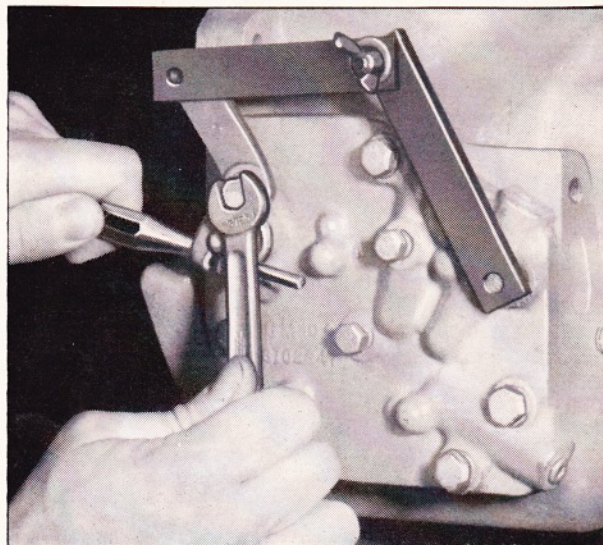

Fig. 8
4. With the throttle valve outer lever positioning gauge J-5906 set at 6", rotate the outer lever counterclockwise to permit the gauge to be installed in top bolt hole and lever. Install gauge as shown in Figure 8.
5. With the clamp and outer lever rotated counterclockwise to the open throttle position (to a definite stop), tighten adjusting screw (fig. 8).